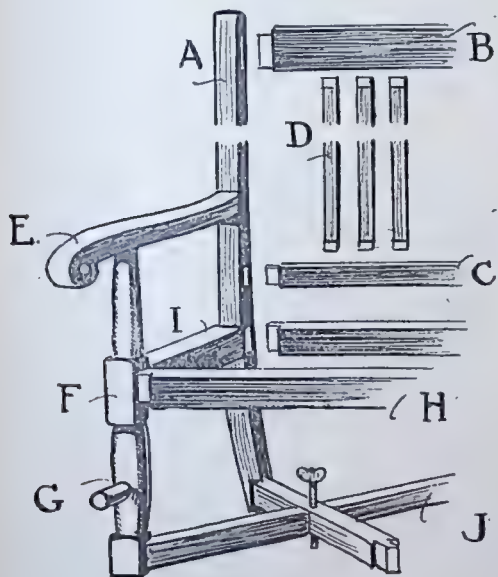

FIG. 4.—SHOWING METHOD OF CONSTRUCTION OF CHAIR.
Proceeding to get out the stuff for the chair, the back legs (A, Fig. 4) will require two pieces (2 ft. 3 ins. full) to finish 1 in. wide on face by $1\frac{1}{4}$ in. thick, which may taper away slightly top and bottom. The rake (or pitch) of the back from seat to top would be about 2 ins., and the grain should run vertically below the seat, where the strain is greatest. The back legs will require mortising for tenons on top rail (B), lower rail (C), and seat rails, back and side (H and I), and also for the arms to enter right through and be wedged. A piece 12 ins. long by $2\frac{1}{2}$ ins. by $\frac{3}{4}$ in. will serve for the top rail, tenoned at each end. It may be cut and cleaned up out of 1 in. stuff, if to be kept flat; but the rail would give more comfort if curved, in which case 2 in. stuff can be used—to be marked out and cut at the local mill. The back legs will also be notched on the angle for the lower cross
juvenile sitter in position. Should an additional play board be desired this may be cut from a piece of $\frac{1}{2}$ in. stuff 15 ins. wide, D-shaped, about 9 ins. wide in centre. A length of stuff 1 in. wide by $\frac{1}{2}$ in. thick may be steamed to shape and glued and bradded on to the edge as a provision against things slipping off. A foot rest may or may not be necessary, according to the age of the child. If required a piece 15 ins. long, to finish about 3 ins. wide by $\frac{1}{2}$ in. thick, should be provided. It can be fixed by pinning to lengths of stout dowel, firmly fitted to the rounded portion of the chair leg in the manner indicated at G, Fig. 4; it should be notched to fit neatly between the legs.
the swell with spokeshave and chisel, working up to a cut across the grain to avoid splintering the square portions. A rasp and glasspaper will assist in giving a satisfactory finish. The square at F, Fig. 4, can be set off 2 ins., and the square below, footboard $1\frac{1}{2}$ ins.